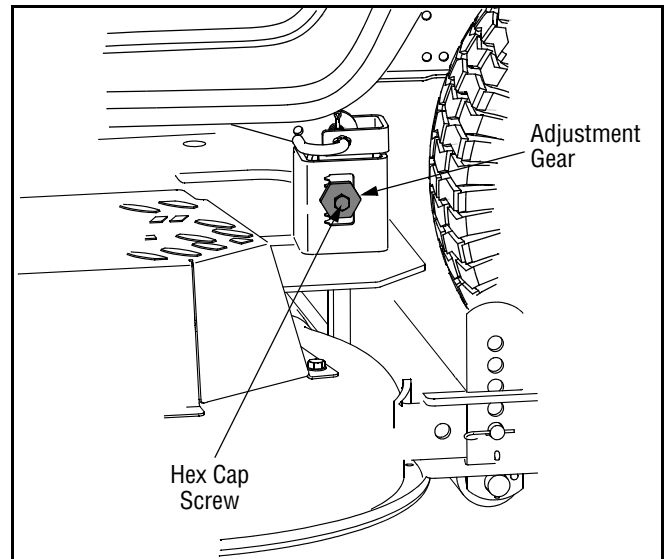

Figure 10
- Loosen, but do NOT remove, the hex cap screw on the left deck hanger bracket. Refer to Figure 10.